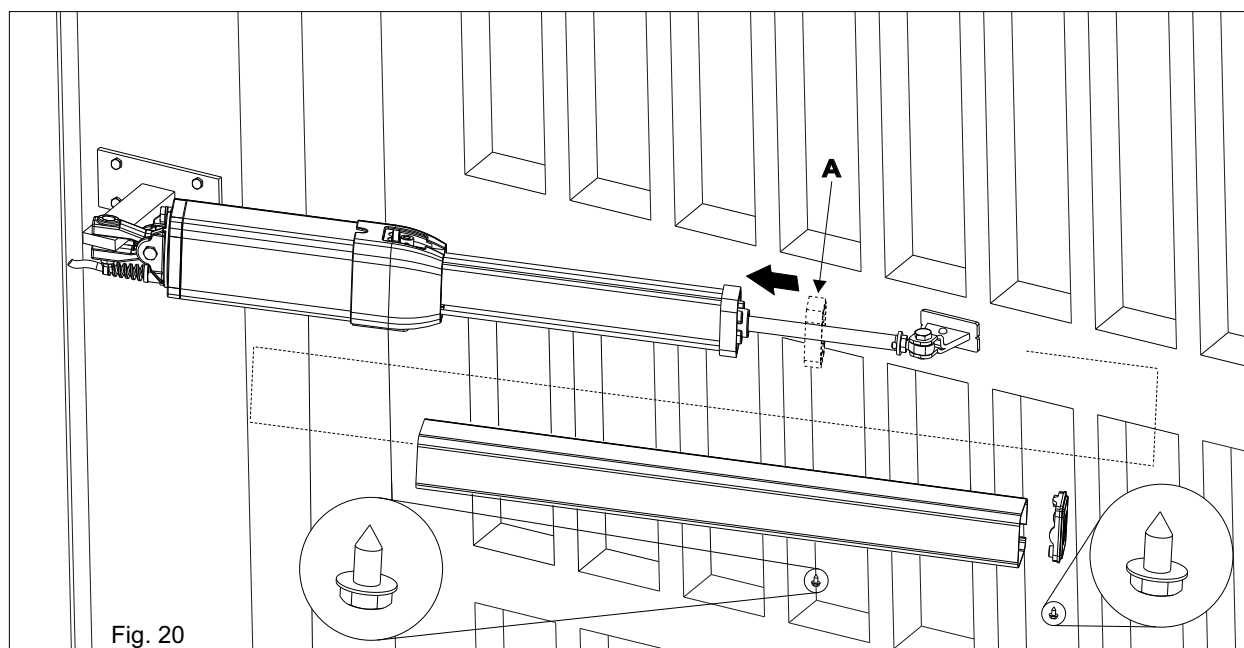

Fig. 20
Make sure to have inserted the antivibration plastic frame (A) before inserting the rod cover extrusion (Fig. 20)